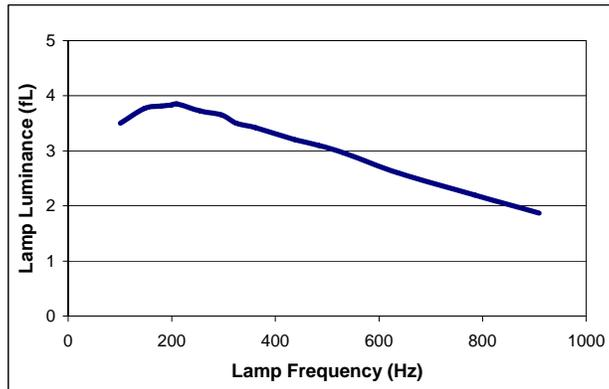

Figure 2: Luminance vs. Lamp Frequency
The selection of the CLF value can also affect the brightness of the EL lamp because of its control of the lamp frequency (LF). Although input voltage and lamp size can change EL lamp frequency as well, LF mainly depends on the CLF value selected or the frequency of the input clock signal to CLF. Figure 2 shows typical brightness of a D373A IC circuit with respect to lamp frequency. In this example, the inductor and CHF values were kept constant while varying LF.